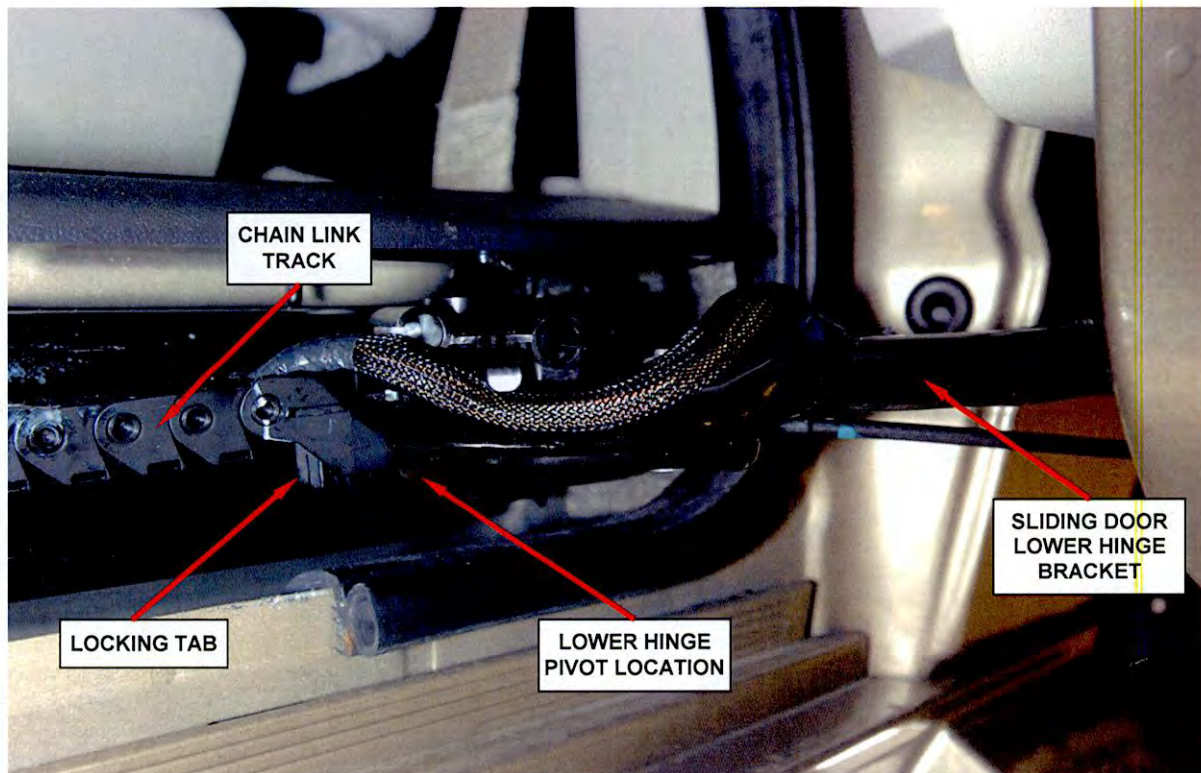

Figure 10 - Chain Link Track Removal
5. Release the chain link track from the lower hinge pivot by pushing the locking tab forward and then push the chain link downward (Figure 10).
6. Install the supplied tab/wedge on the lower hinge pivot located on the sliding door lower hinge (Figure 10).
8. Lock the chain link in place by pushing the locking tab rearward (Figure 10).